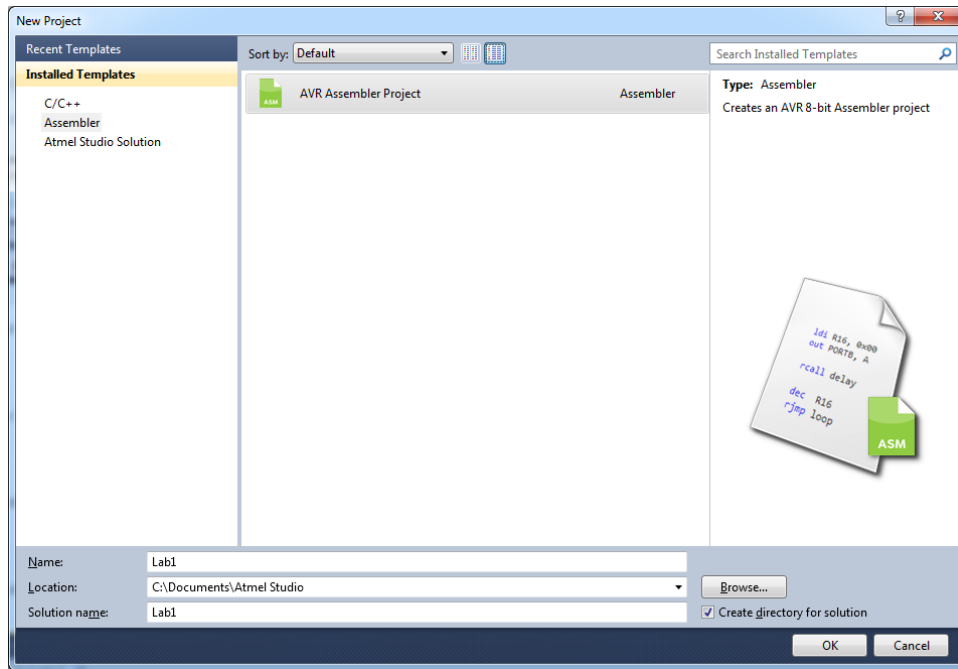

Figure 1: AVR Studio Project Creation.
3. The dialogue box that appears should look similar to Figure 1. Under **Installed Templates**, make sure **Assembler** is selected.
At this point, an editor window appears within Atmel Studio 6 and you are able to begin composing your assembly program. Notice that Atmel Studio 6 has already created an empty assembly file for you, based on the name given earlier as the project name. For example, if you named your project **Lab1** as in Figure 1 then the automatically-created assembly file would be named **Lab1.asm**.